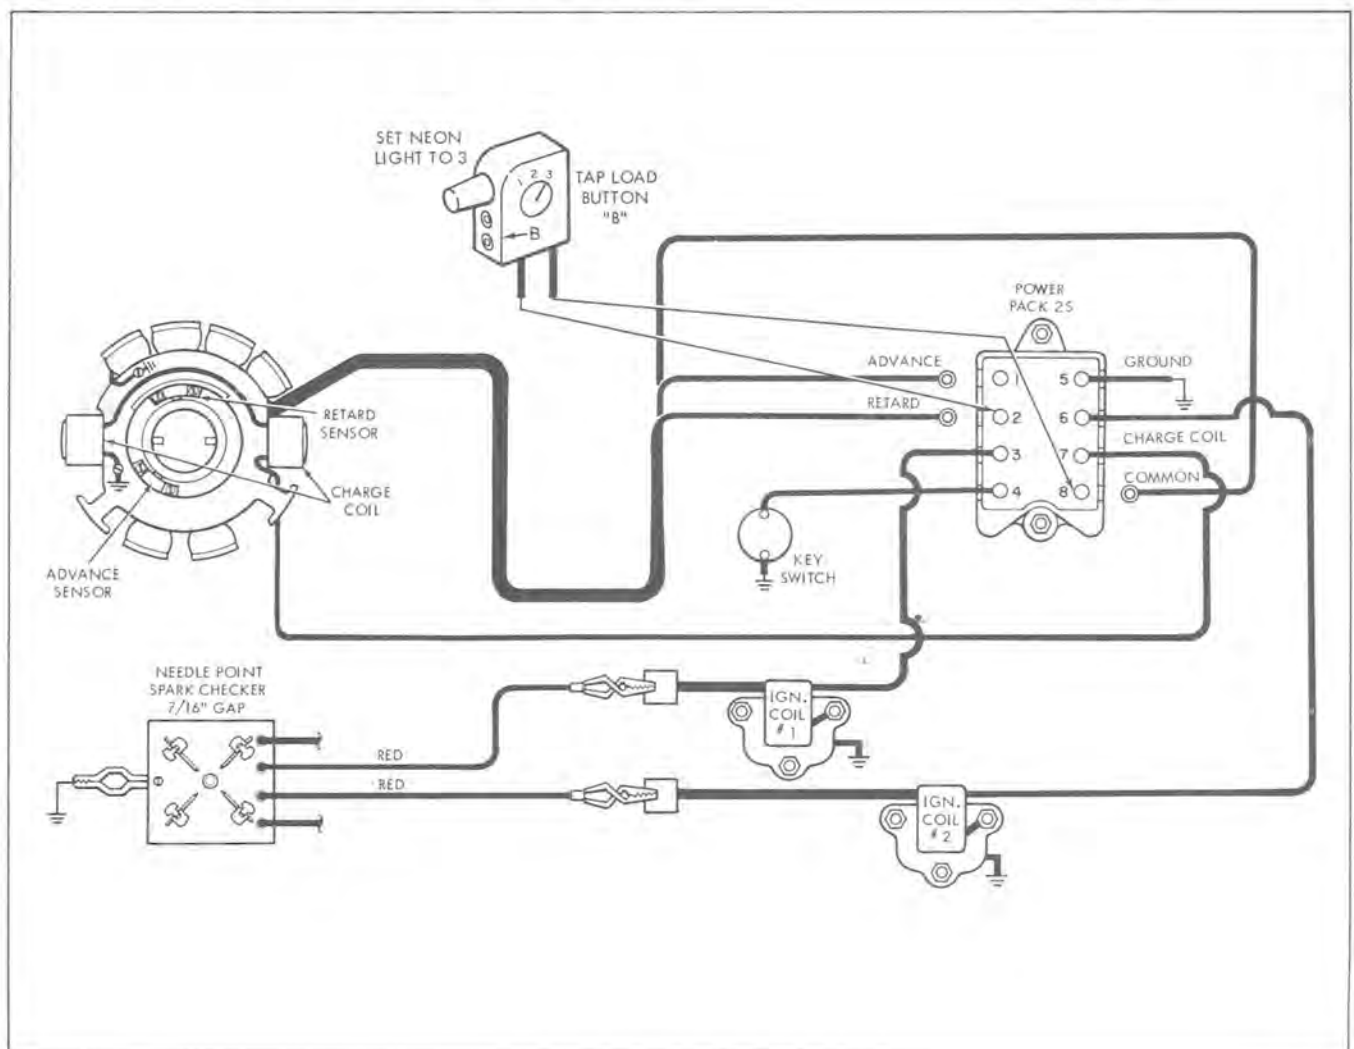

Figure 7-15
- A. Remove retard sensor, white/green stripe lead; advance sensor, white/black stripe lead; and black/white stripe lead from Power Pack terminals #1, #2 and #8. (Do not allow leads to touch ground.) See Figure 7-15.